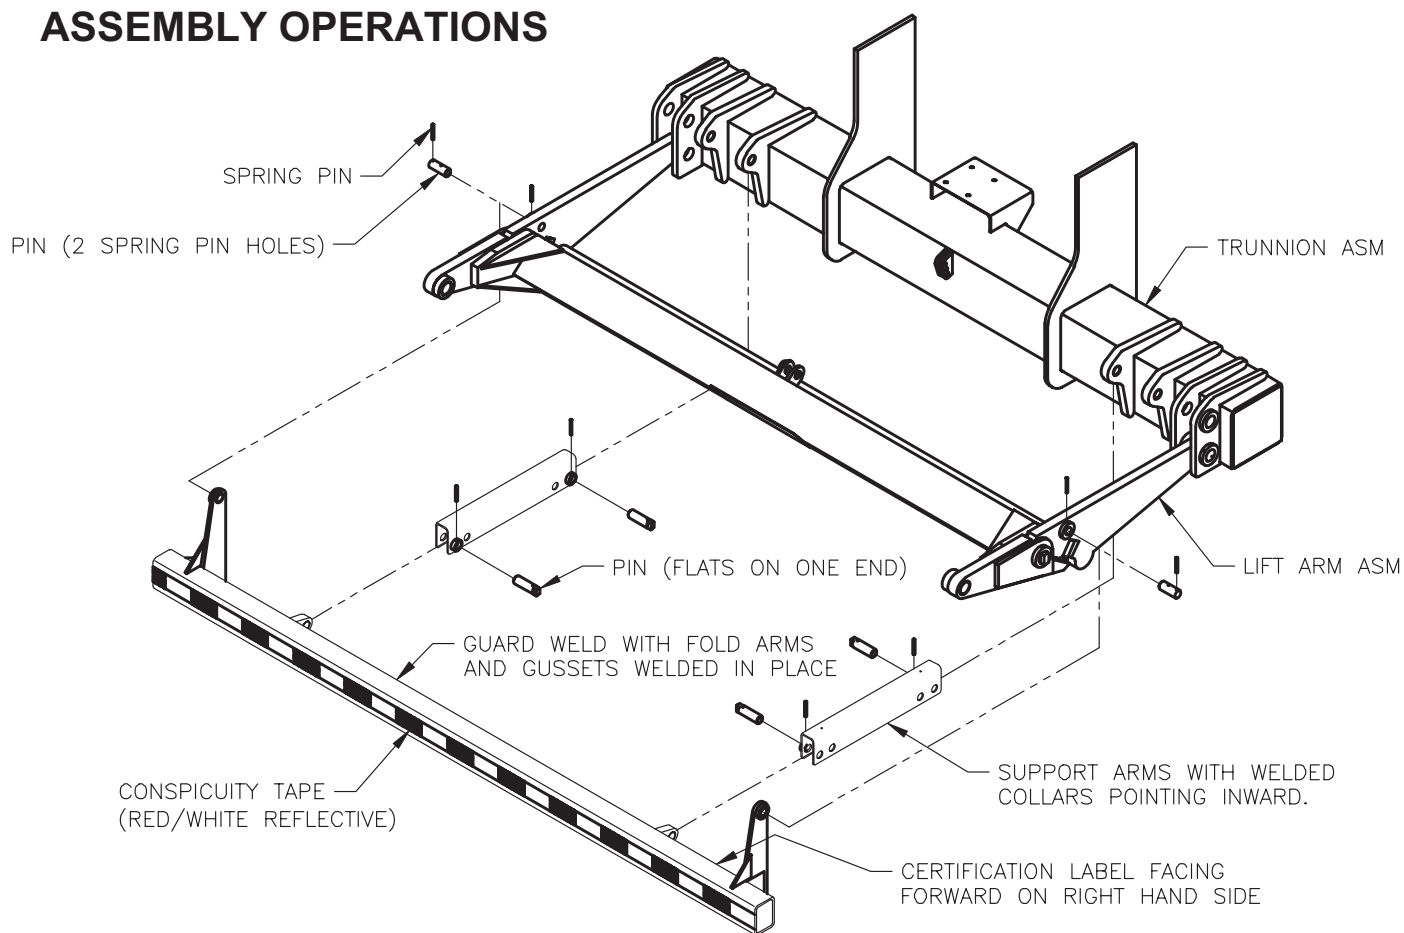

FIG. 3
- STEP 6. Assemble the guard weld/fold arm/gusset weld to the lift arm using the pin with the two holes and the spring pins supplied as shown in figure 3.
- STEP 7. Assemble the support arm/collar welds between the guard weld lugs and the trunnion asm. lugs using the pins with the flats on the end and the spring pins supplied as shown in figure 3. The collars welded to the support arms should face inward.
STEP 11. After painting is complete, apply the conspicuity tape as shown in figure 3.